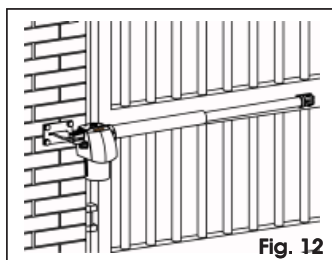

Fig. 12
**⚠** The G-BAT operator is available in both right and left versions. The operator must always be positioned as shown in Fig.12. The right hand operator is the operator which, by looking at the gate from the side where the operator is installed, is located on the right of the leaf (or on the right leaf in the case of 2-motor applications). Consequently, the motor on the left (or on the left leaf) is identified as the left operator.